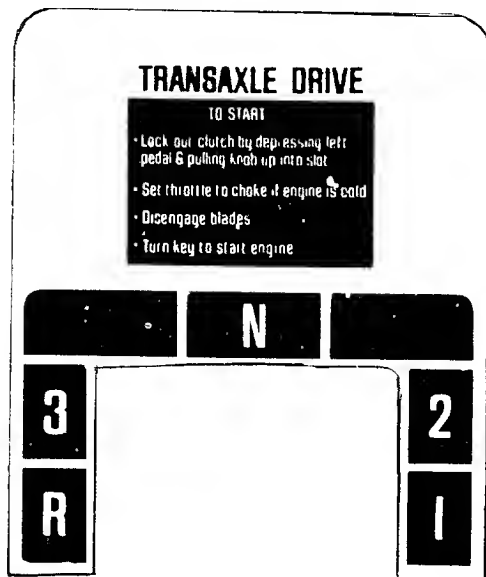

FIGURE 8. SHIFT PATTERN
- f. **Clutch Lockout.** When the clutch pedal is depressed all the way it can be locked by placing the clutch lockout in the START position as shown in figure 8. The clutch lockout must be in this position before the engine will start.